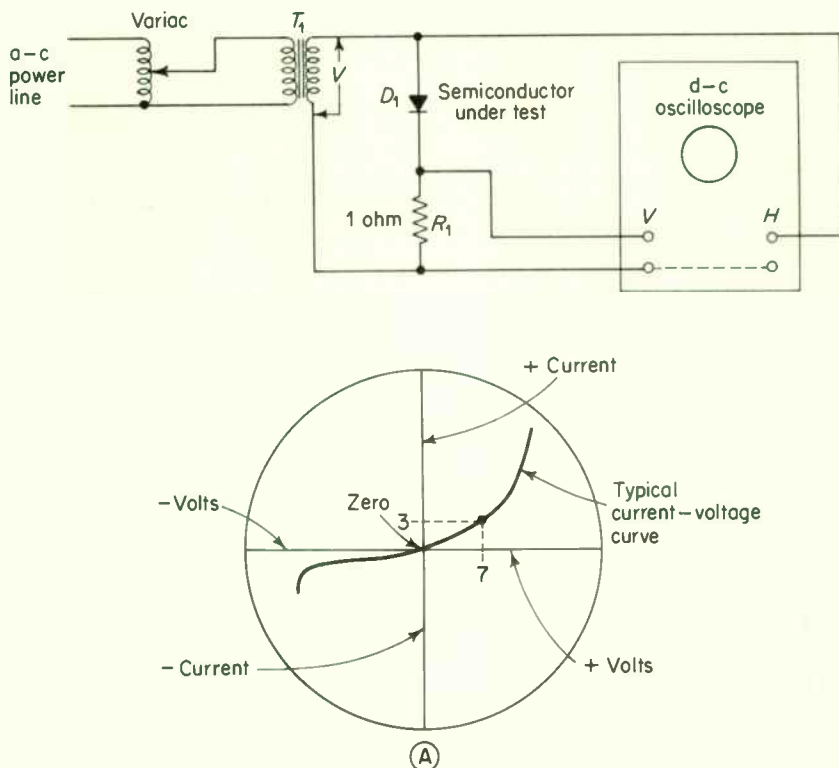
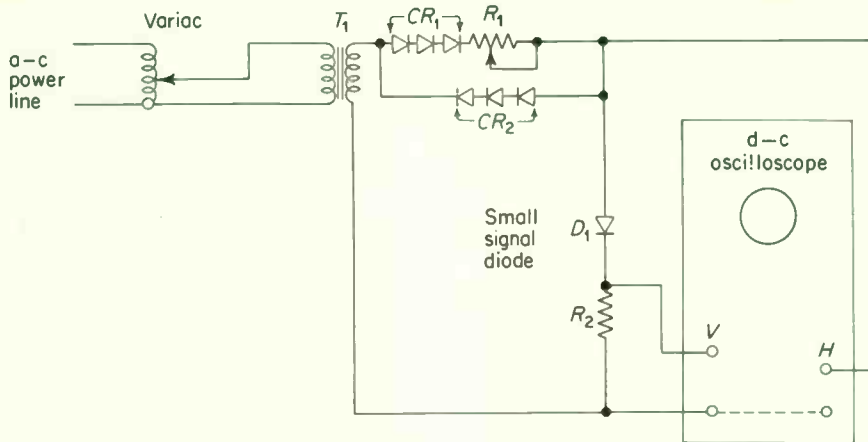

Fig. 9-1. Checking semiconductor rectifiers.
Fig. 9-2. Checking semiconductor (small signal) diodes.
As shown in Fig. 9-1, the semiconductor rectifier is tested by applying
1. Connect the equipment as shown in Fig. 9-1.
5. Check the oscilloscope pattern against the typical curves of Fig. 9-1 and/or against the rectifier specifications. Figure 9-1a is a typical response pattern. Compare the current-voltage values against the specified values. For example, assume that a current of 3 amp should flow with 7 volts applied. This can be checked by measuring along the horizontal scale to the 7-volt point, then measuring from that point up or down to the trace. The 7-volt (horizontal) point should intersect the trace at the 3-amp (vertical) point.
Ideally, a small-signal diode should be tested with a low-value forward voltage, and a high-value reverse voltage. This can be accomplished using a circuit as shown in Fig. 9-2. The circuit of Fig. 9-2 is essentially the same as that of Fig. 9-1, except that rectifiers  $CR_1$  and  $CR_2$  are included to conduct on alternate half-cycles of the voltage across transformer  $T_1$  secondary. Rectifiers  $CR_1$  and  $CR_2$  are chosen for a linear amount of conduction near zero.